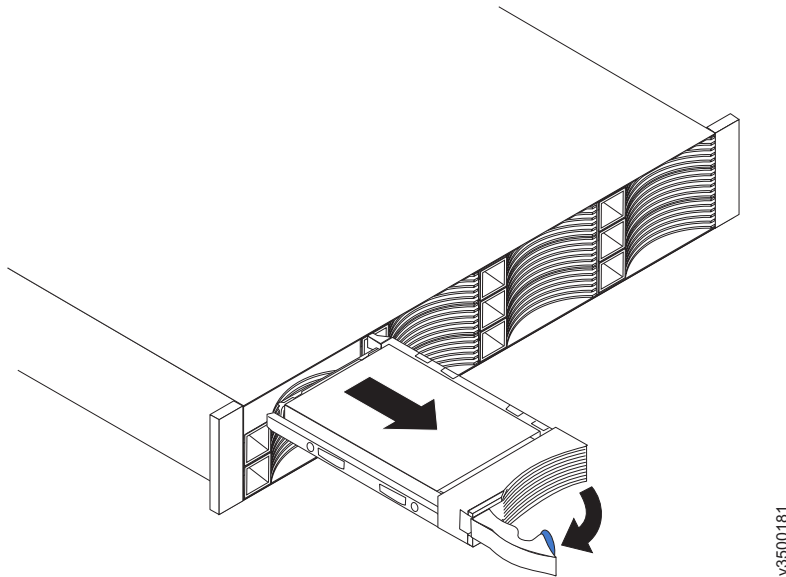

Figure 92. Unlocking and removing a 3.5-inch drive from its slot
5. Pull out the tray handle to the open position (see Figure 92 on page 319).